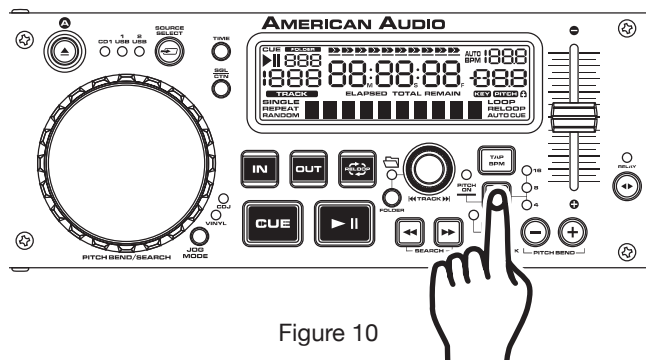

Figure 10
**Using the Pitch Slider Percentage Selector (8):** You may choose a pitch operating range at any time. To change the operating range be sure the pitch function is turned on, see figure 10. The pitch percentage can be changed between +/-4%, +/-8%, +/-16%, and 100%. 4% will allow the least amount of pitch manipulation and 100% will allow the most amount of pitch manipulation. To adjust the different values, press the **PITCH ON/OFF BUTTON (8)** and Tap on the **% BUTTON (8)** until your desired value is reached. The LED of the **% BUTTON (8)**; glowing red for 4%, glowing yellow for 8%, or glowing amber for 16%, and all LEDs glowing for 100%.